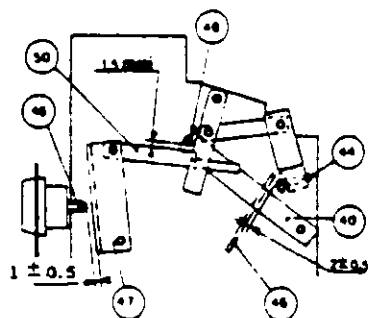

Fig. 22
- A. Adjustment (Fig. 22). Place breaker in tripped position with closing springs fully charged. Adjust screw (44) to obtain  $4 \pm 0.5$  mm ( $0.158 \pm 0.020$  inch) clearance between lever (45) and end of screw (44). Adjust screw (46) on trip button for  $1.0 \pm 0.5$  mm ( $0.04 \pm 0.020$  inch) clearance between strip (47) and screw end (46).